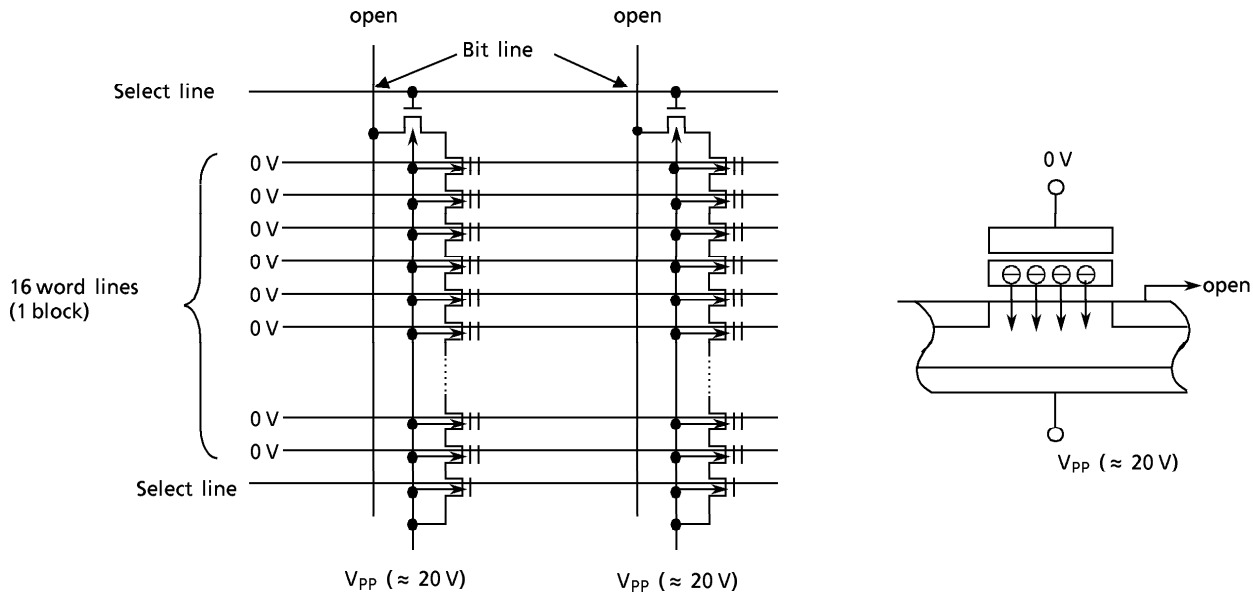

Figure 18. TC5816 Erase Device Physics
- (1) A high level is applied to Select line 1 and a low level is applied to Select line 2 so that the device is connected to the Bit line and disconnected from the ground line.
- (2) V_{pp} ($\approx 20\text{ V}$) is applied to the selected word line and an inhibit voltage of V_{PI} ($\approx 10\text{ V}$) is applied to the unselected word lines.
- (3) 0 volts is applied to the bit line tied to cell transistor TR1 and the inhibit voltage $VDPI$ ($\approx 10\text{ V}$) is applied to the bit line tied to TR2.
- (4) V_{pp} is applied between the control gate and the channel in TR1, as shown in Figure 18, which causes electrons to be injected from the channel to the floating gate by a tunneling mechanism.
- (5) The injected electrons are captured in the floating gate surrounded by an oxide layer and will remain, even after power is cut off, until they are removed by an Erase operation.
- (6) Although 20 volts is applied to the control gate of TR2, the voltage difference between the control gate and the channel is only 10 V because the voltage of the channel is 10 V. Therefore, tunneling does not take place (i.e. the electron is not injected into the floating gate.)
- (7) Tunneling does not take place in the unselected pages because of the 10 V (V_{PI}) applied to the unselected word lines which makes the voltage difference between the control gate and channel only 10 volts.
Figure 18 shows the NAND memory cell level details of the Erase mechanism. The Erase operation is used to turn the “0” (programmed) cells back to “1” in a block. The captured electrons are pulled out from the floating gate to the substrate by a tunneling mechanism. 0 volts is applied to the control gate and V_{pp} ($\approx 20\text{ V}$) is applied to the substrate so that a 20-volt potential is created and the electrons in the floating gate are pulled out by the tunneling mechanism.